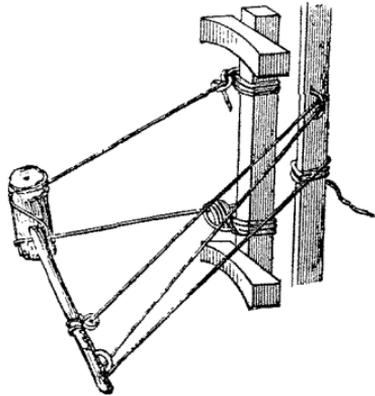
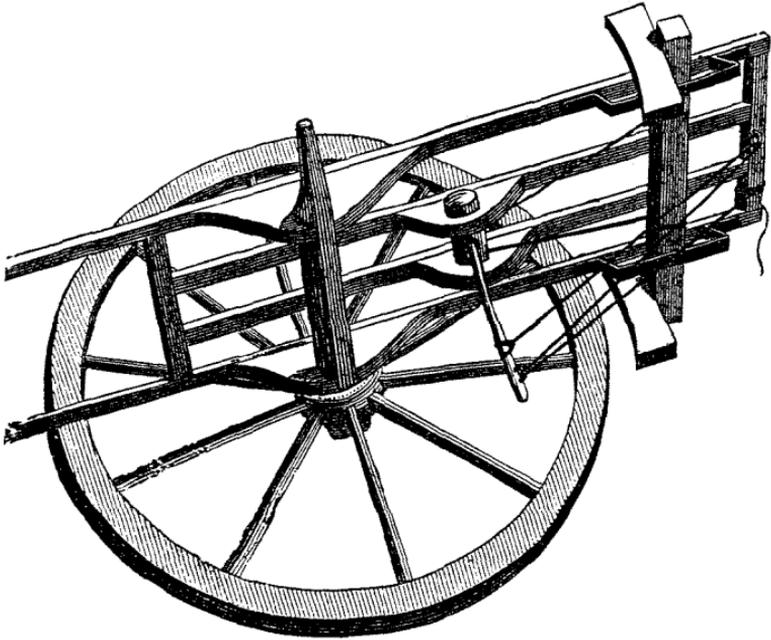

Fig. 1.
Fig. 2.
**Breaks and Drags.**—*Breaks.*—Every cart and wagon in Switzerland, and, indeed, in most parts of the Continent, has a break attached to it: the simplest kind of break is shown in fig. 2, which represents a cart tilted upwards. Fig. 1 shows the break itself; fig. 2 explains how it is fitted on to the cart. It will easily be understood how, by tightening the free end of the cord, the break is pressed against the wheels. The bent piece of iron shown in fig. 2, by which the bar of the break is kept in its place, may